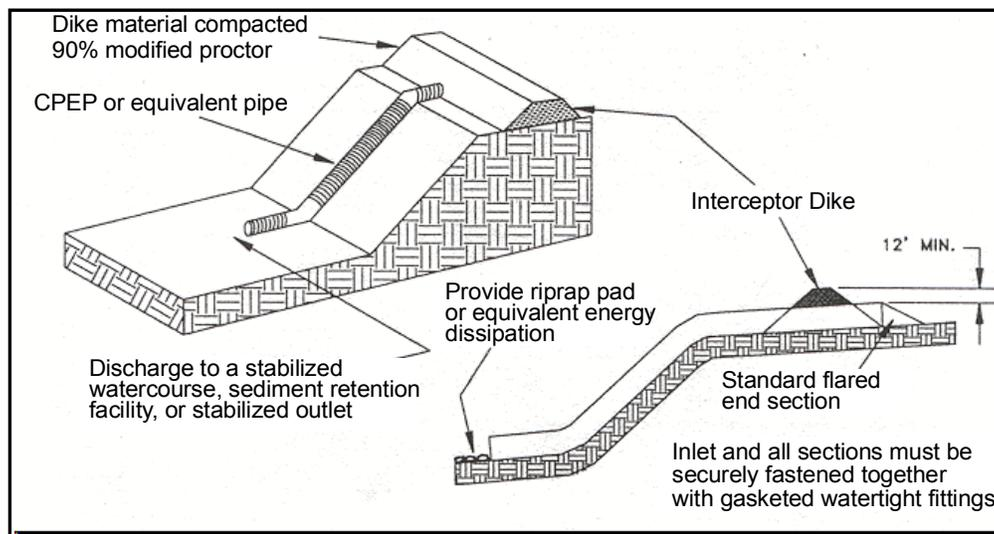

Figure E-8. Pipe Slope Drain Details.
- The entrance shall consist of a standard flared end section for culverts 12 inches and larger with a minimum 6-inch metal toe plate to prevent runoff from undercutting the pipe inlet. The slope of the entrance shall be at least 3 percent (Figure E-8).